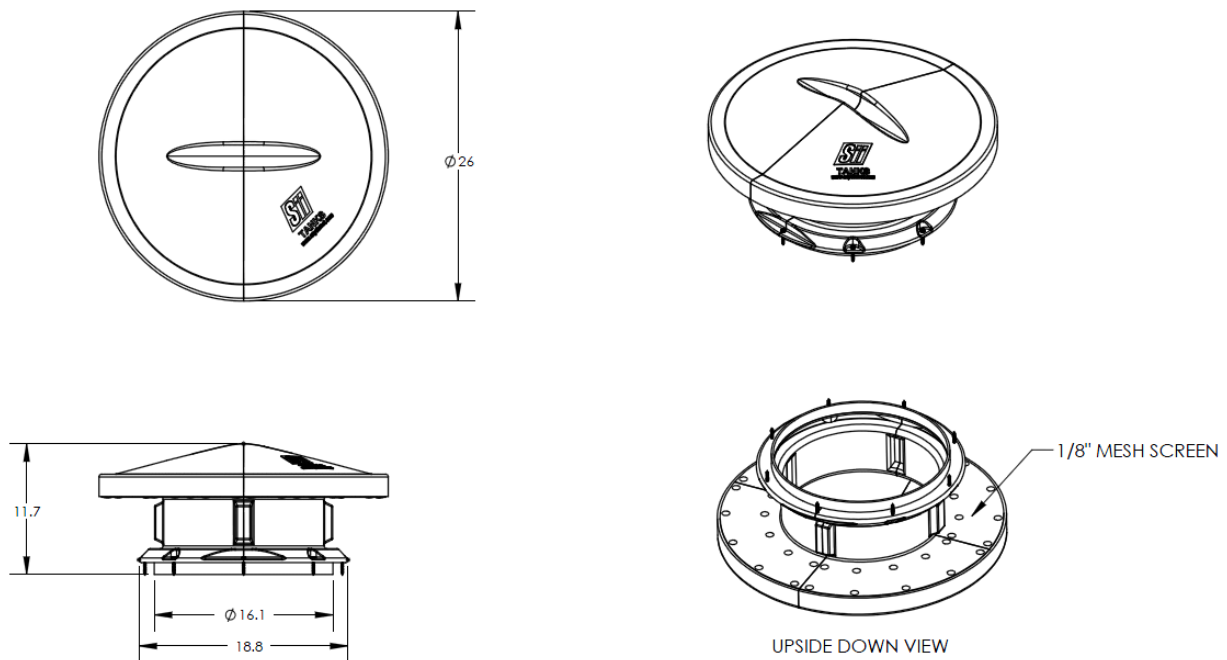
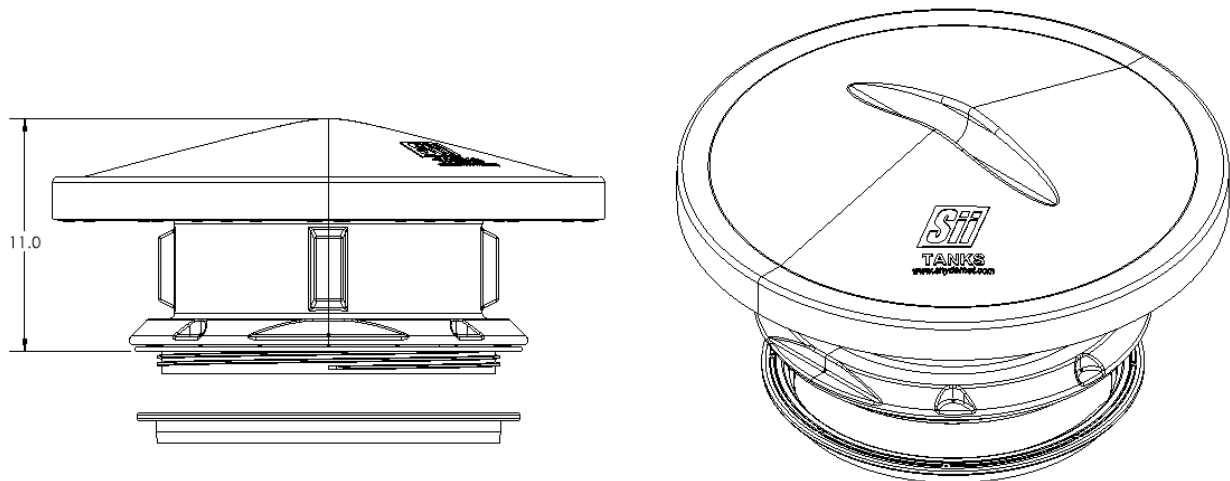

Figure 7.2.2
Figure 7.2.3
7.2.2 The 18" mushroom vent (fig 7.2.2) or threaded (fig 7.2.3) is a solution to undersized venting problems. Such as: in cases of pneumatic filling. It's a rotationally molded 18" vent that can be attached to any tank that has at least 19" diameter of flat area (non-threaded) or it can be installed in the 18" manway ring (threaded). The vent is installed by simply cutting the hole and attaching it with the 8 screws provided and sealing with silicone (non- threaded) or by removing the threaded manway and threading in the mushroom vent (threaded).